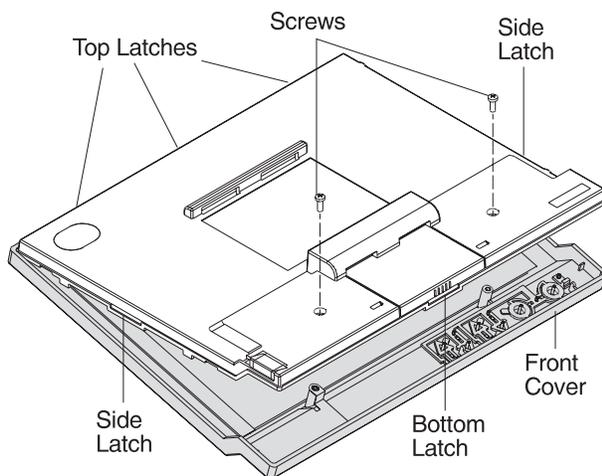

Figure 3-10. Removing the Front Cover
- 1 Remove the two screws. See Figure 3-10.
- 2 Open the front cover by gently prying and flexing the cover outward at the six latch locations shown in Figure 3-10. It is best to release at the bottom latch edge first. Then release the sides, leaving the top until last.